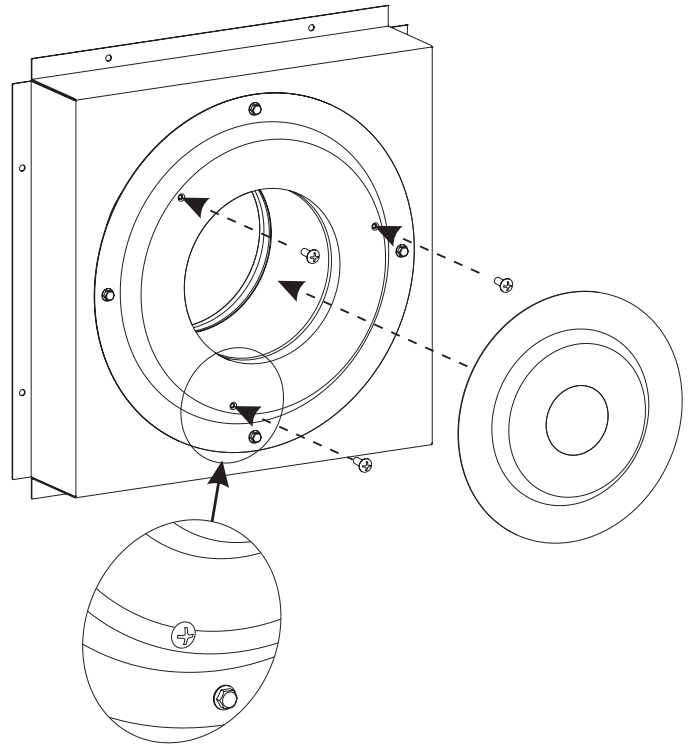

Figure 2
3. Install the adapter plate and secure with the three #10 x 1/2 Phillips head screws provided. The screw heads will overlap the edge of the adapter plate to secure it in place. **See Figure 2.**